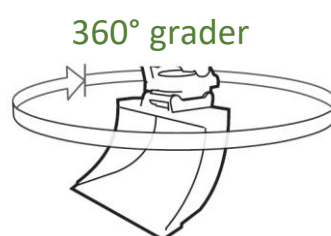

Figure 5
1. Rotations 360° (*Figure 5*)